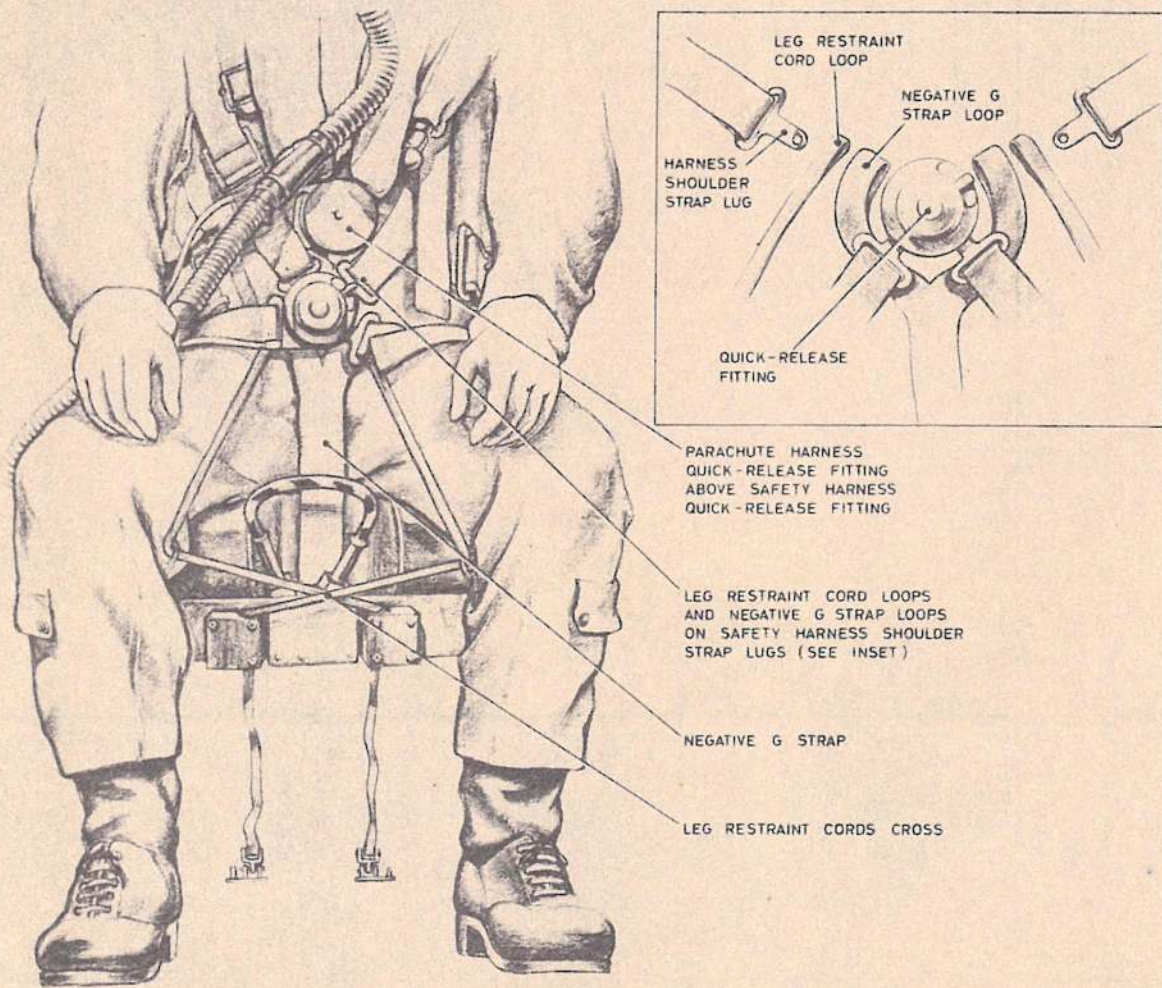

Fig. 4. Arrangement of leg restraint cords (inset: Assembly to quick-release fitting)
22. The strapping-in procedure for the pilot is as follows; refer to fig. 4 to 6 for detail as necessary:—
- (8) Tighten the shoulder straps first so that the parachute harness quick-release fitting will lie above and clear of the safety harness quick-release fitting when assembled.
- (9) Tighten the parachute harness leg straps. When tightening harness straps, pull on the running end with one hand and push on the standing end with the other hand to relieve the tension on the buckles.
- (10) Connect the air supply hose to the air ventilated suit (if worn).
- (11) Fasten the lap straps of the safety harness but do not tighten.
- (12) Draw the negative-G restraint strap up between the legs and tuck the V-shaped end under the safety harness lap straps. Ensure that the negative-G restraint strap is clear of the seat pan firing handle.
- (13) Thread the leg restraint cords through the quick-release coupling rings on the garters as follows :-
- Pass the cord emerging from the snubbing unit behind the left leg through the garter ring on the right leg and UNDER the safety harness lap strap. Insert the lug of the safety harness right shoulder strap through the loop at the end of the leg restraint cord and also through the loop at the end of the right branch of the negative-G restraint strap. Secure the lug in the quick-release fitting (see inset of fig. 4).
- (14) If there is insufficient leg restraint cord, press and hold the plunger under the snubbing unit and draw the cord upwards; if there is too much, draw any excess downwards through the unit (it is unnecessary to press the plunger in this instance).
- (15) Tighten the safety harness lap straps first, then tighten the shoulder straps and tension the negative-G restraint strap.
- (16) Connect the main and emergency oxygen supply to the mask tube assembly and the locating chain to the life-jacket.
- (17) Connect the Mic/Tel lead.
- (18) Adjust the height of the seat. Ideally, the head is to be located in the centre of the headrest cushion.
- (19) Reach upwards and check that the face screen firing handle is within easy reach; DO NOT PULL.
- (20) Ensure that the chin straps of both helmets are fastened, fit the oxygen mask and perform pre-flight oxygen checks.